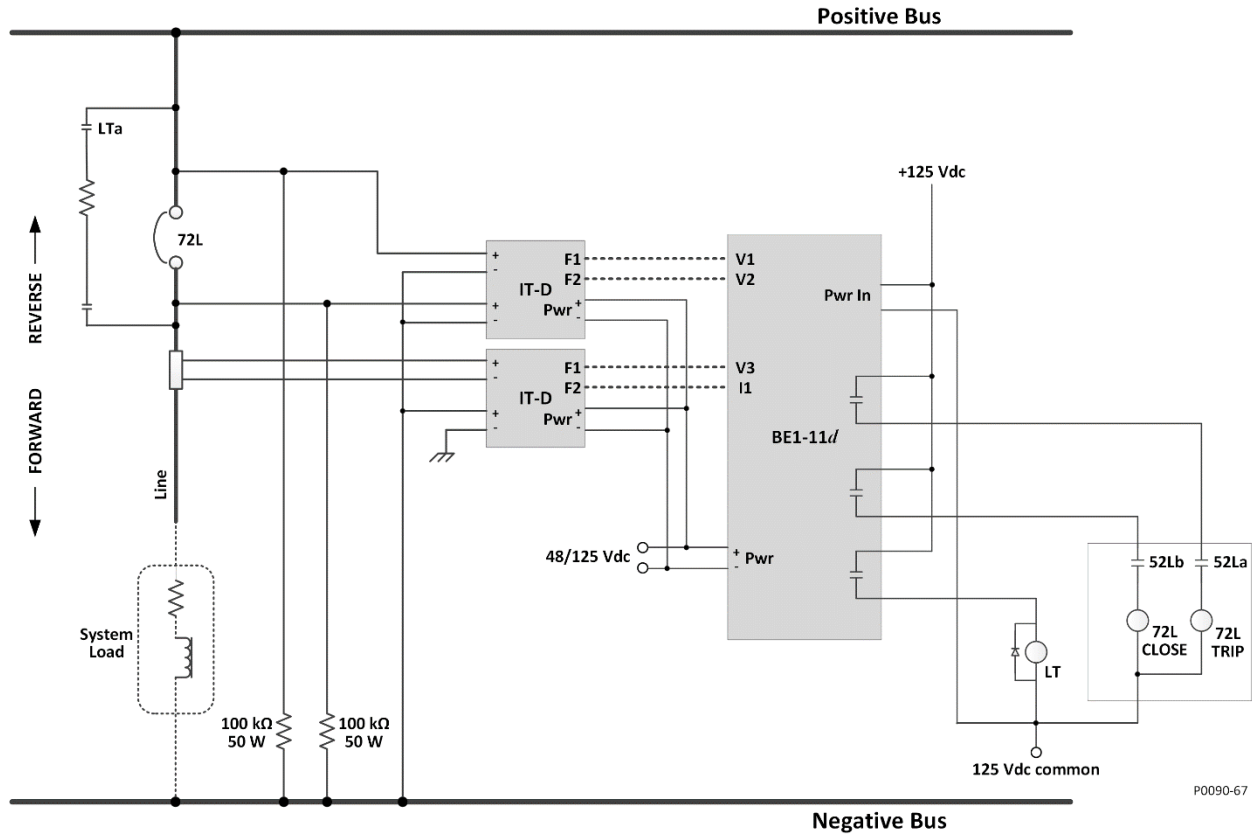
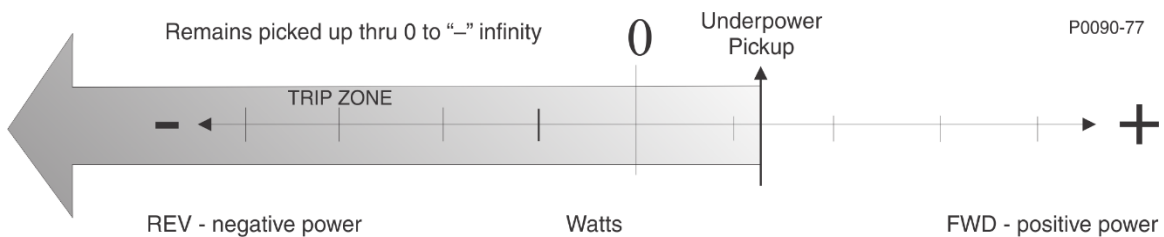

Figure 9-1. Direction of Power Flow Defined by the Polarity of Voltage and Current Connections
Figure 9-2. Forward and Reverse Pickup Values
In addition to exceeding the power pickup threshold, direction of power flow (forward or reverse) must match the directional setting for the 32 element to operate. In the BE1-11*d*, the forward and reverse directions are defined by the polarity voltage and current connections to the BE1-11*d* as shown in Figure 9-1. Based on IEEE polarity convention, forward power is defined as bus to line and reverse power is defined as line to bus.
Power pickup settings for the power elements are always positive regardless of the directional setting. However, it is useful in understanding the element response to visualize the forward direction as positive power and the reverse direction as negative power. If we think in terms of a forward and reverse scale with zero (0) in the middle as shown in Figure 9-2, positive and negative power flows relative to the forward and reverse directional setting. For example, assume an intertie application where the Area EPS (electric utility) requires the Local EPS (source of non-utility generation) to separate from the Area EPS (trip the intertie breaker) if any power flows towards the Area EPS. For illustrative purposes, assume that the BUS in Figure 9-1 is the Local EPS, 72 is the intertie breaker, and LINE is the Area EPS. Normal power flow is from the Area EPS to the Local EPS, which happens to be an industrial facility with local generation used for peak shaving.
Assuming polarity current and voltage connections as shown in Figure 9-1, forward power is defined as flowing into the Area EPS and reverse power is defined as flowing into the Local EPS. For this application, the 32 element should be set to trip for minimum underpower in the reverse direction (to the Local EPS). Therefore, the settings would be Reverse, Under, and 1 watt. Assume that normal power absorbed by the load is 4 kW in the reverse or negative direction on our scale. If load is suddenly lost at
the industrial plant while the peak shaving generation is running, power may flow towards the Area EPS depending on the load to generation ratio. What was a negative 4 kW passes through 0 watts on its way to some positive power level. However, in doing so, passes through the negative underpower trip threshold of Reverse, Under, 1 watt, resulting in a 32 trip and opening of the intertie circuit breaker. From negative 1 to positive infinity, the 32 element remains in a picked up condition as shown in Figure 9-2. A trip time delay should be included to ensure that the 32 element does not operate for a transient power condition.